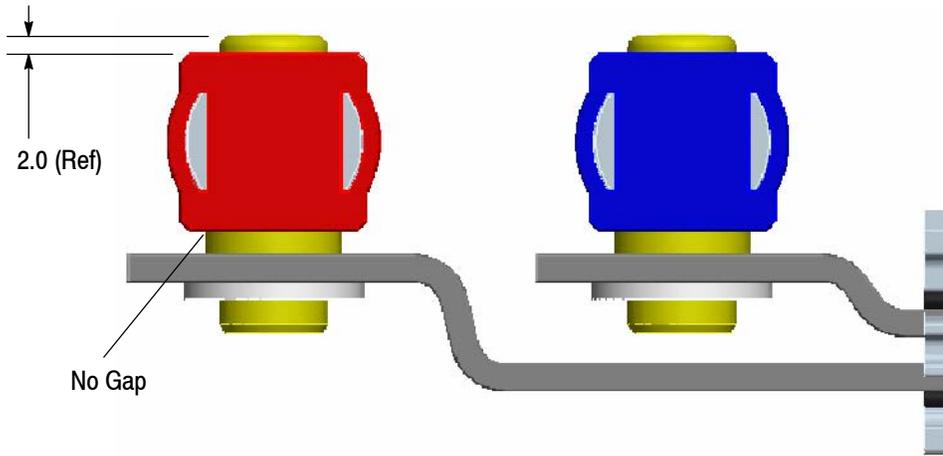

Figure 3
A. RAPID LOCK Connectors (Figure 3)
Mating of the RAPID LOCK connector shall be in -Y direction as shown in Figure 2A. The RAPID LOCK connector is to be pushed fully down on the 12 mm pin. The pin should extend approximately 2.0 mm above the surface as shown in Figure 3.